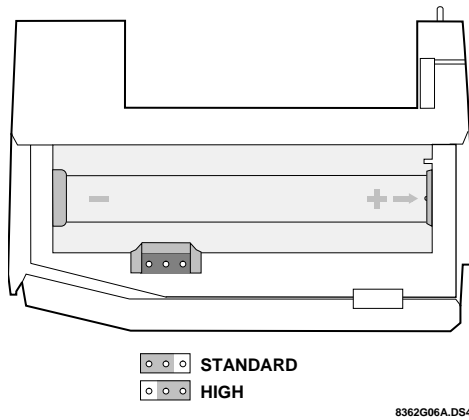

Figure 6. Sensitivity Pins Locations
3. The sensor is set to standard sensitivity at the factory. To change this to high sensitivity move the shorting jumper to the pair of pins that are closer to the top of the PIR (see Figure 6)